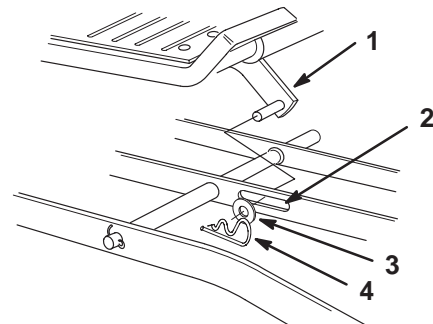

Figure 20
8. Remove the hairpin cotter and washer from attachment lift pin from slot in center lever bar (Fig. 20).